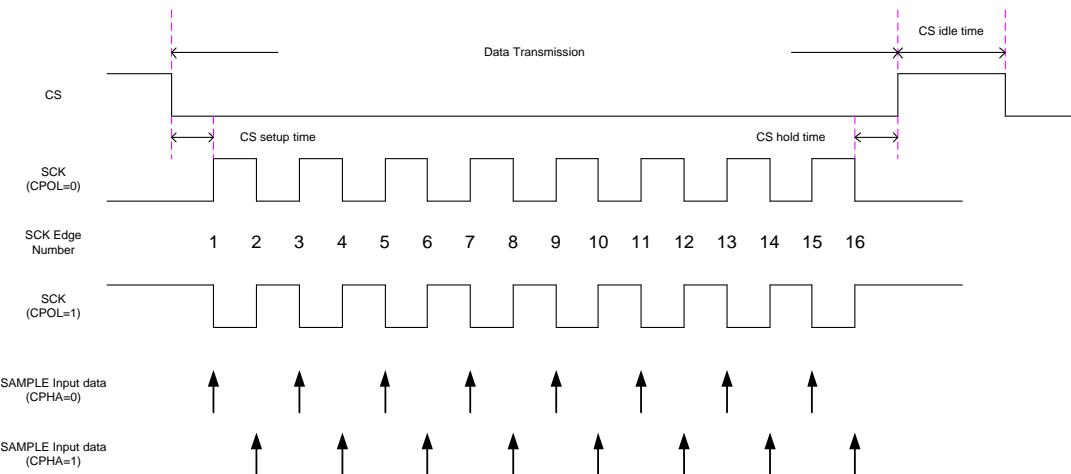

Figure 6.1-1. SPI transmission formats
- The SCK frequency supports maximum 48MHz with CPOL and CPHA features and can be configured as 96/N MHz (where N is from 2 to 2^{17}) for different applications. CPOL defines the clock polarity in the transmission. CPHA defines the legal timing to sample data. The chip select (CS) signal setup time, hold time and idle time can be configured, too. The detailed timing diagram of the SCK and CS signals is shown in Figure 6.1-1.